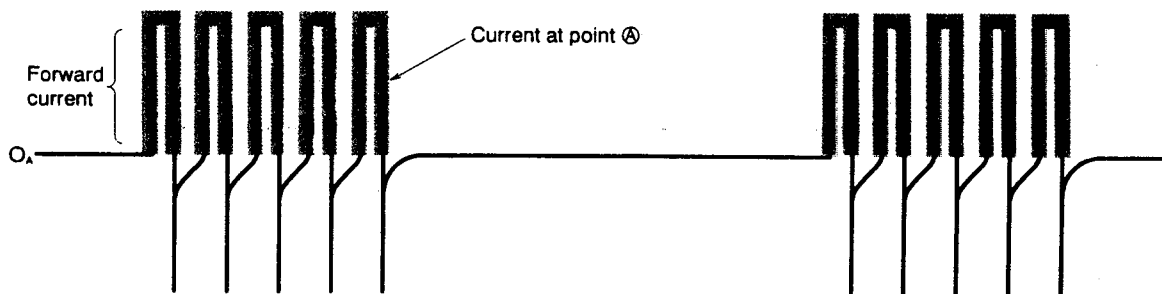

Fig. 7-2 Forward Current Waveform at Point ⑧
- When pin ②③ of the micro computer goes "HI" → "LO", a photocoupler between PQ2 pins ① and ② turns on and current flows to terminal ⑧ → R401 → PQ2 → R404 → power module's Bu⁺ terminals → Eu⁺ terminals → D402 → D401 → terminal ⑩ and drives the upper arm transistors. (Fig.7-2)
- As described in the rotor magnetic pole position detecting circuit, the upper arm drive circuit supplies current to the bases of the transistors on the power module's positive ⊕ side which turn on or off according to the position detection signals. The signals according to the position detection signals are output from pins ②③, ②④ and ②⑤ of the micro computer and are input to pins ② of photocouplers PQ2 - PQ4.